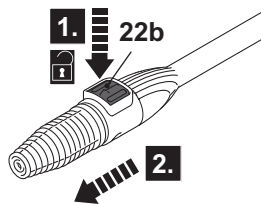

Fig. 10
- > Press the release button (22b) (Fig. 10, step 1) and remove the nozzle (step 2).